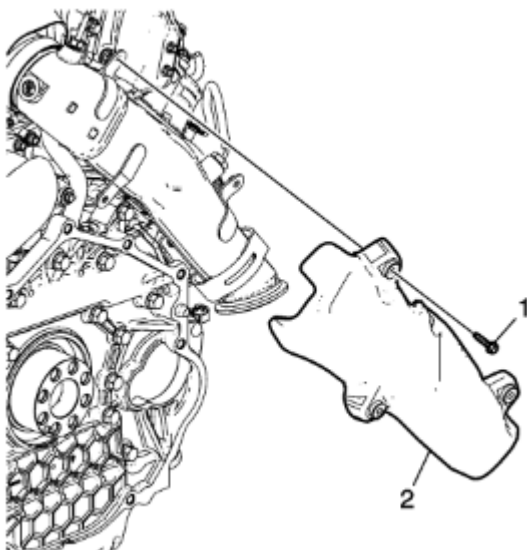

Fig. 10: Exhaust adapter heat shield removal
- Remove the bolt retaining the exhaust adapter to the passenger side exhaust up-pipe. Reference figure 10.